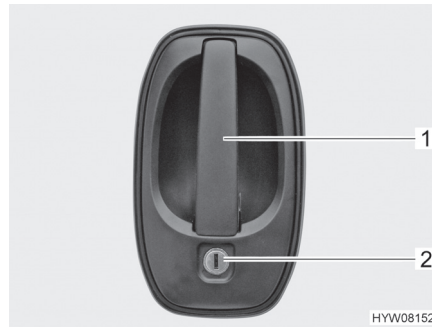

Fig. 53 Door lock (driver's door/conversion door, outside)
- Insert the key into locking cylinder (Fig. 53,2) and turn until the door lock is unlatched.
- Pull on the door handle (Fig. 53,1). The door is open.
- Insert the key into locking cylinder (Fig. 53,2) and turn until the door lock is engaged.